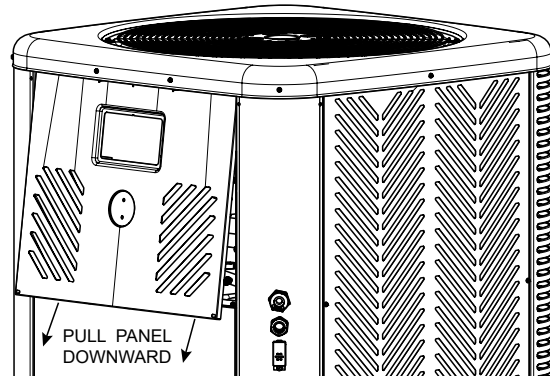
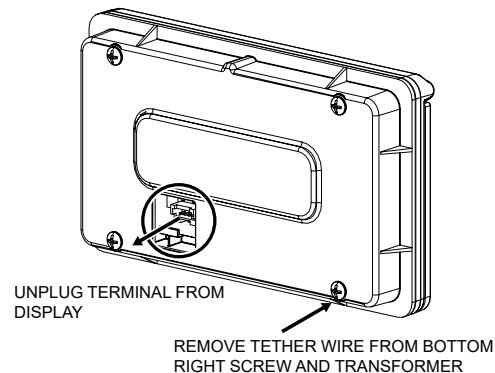

Figure 131. Detach Front Panel
Figure 132. Remove Wiring from Display
3. To remove the front panel, pull the bottom of the panel downward and outward, and then disconnect the wire attached to the rear of the user interface. The panel should now be free for removal. See Figure 131 and Figure 132.